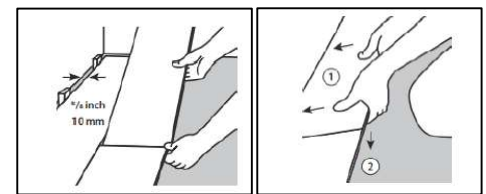

Figure 4
- Install the second plank of the second row by installing its short edge to the previous row's groove. Hold a plank at approximately a 30-degree angle and connect short end joints together about half-way down the width of the short edge. Before lowering the right edge of the plank, slide it forward towards the previous row. Install the remaining planks and rows in the same manner (**Figure 4**).